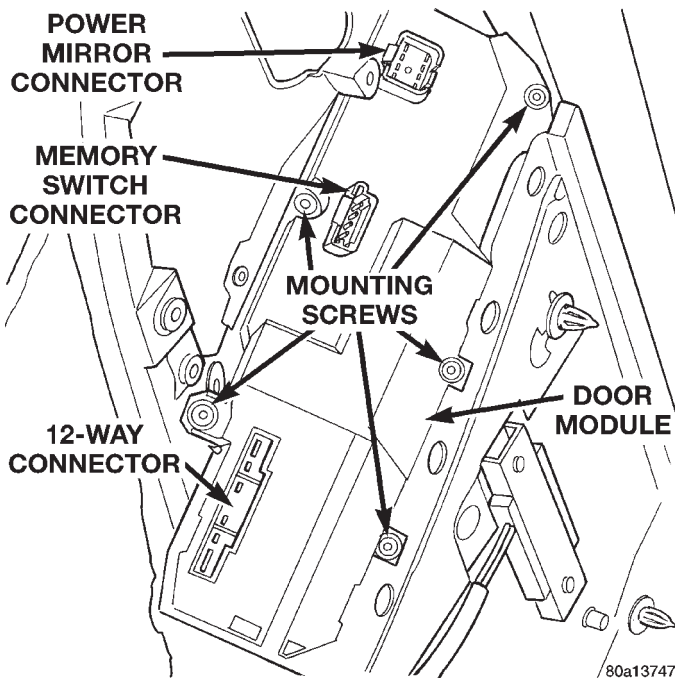

Fig. 2 Door Module Remove/Install
(8) Pull the front door trim panel away from the inner door panel far enough to access and unplug the wire harness connectors from the door module and, if the vehicle is so equipped, from the front door courtesy lamp.
(9) Remove the five screws that secure the door module to the back of the front door trim panel (Fig. 2).